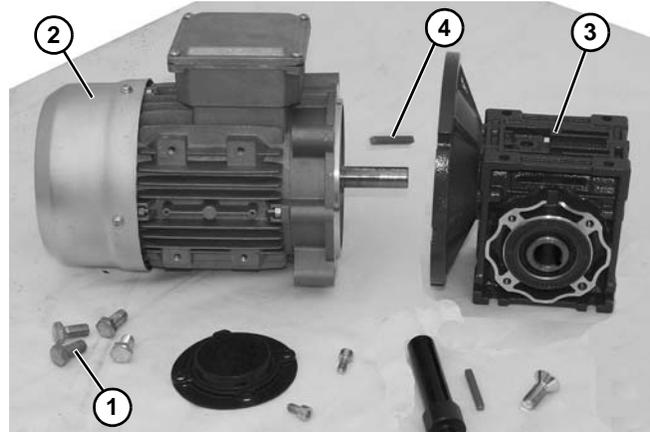

Figure 29
- Remove four screws (**Figure 29, item 1**). Detach motor (**Figure 29, item 2**) from gear reducer (**Figure 29, item 3**). Retain shaft key (**Figure 29, item 4**).
8. Apply anti-seize to motor shaft before assembling to gearbox. With key (Figure 29, item 2) in keyway, slide motor (Figure 29, item 2) and gear reducer (Figure 29, item 3) together. Install screws (Figure 29, item 1) and tighten.
4. Apply anti-seize to motor shaft before assembling to gearbox. With key (**Figure 29, item 4**) in keyway, slide motor (**Figure 29, item 2**) and gear reducer (**Figure 29, item 3**) together. Install screws (**Figure 29, item 1**) and tighten.